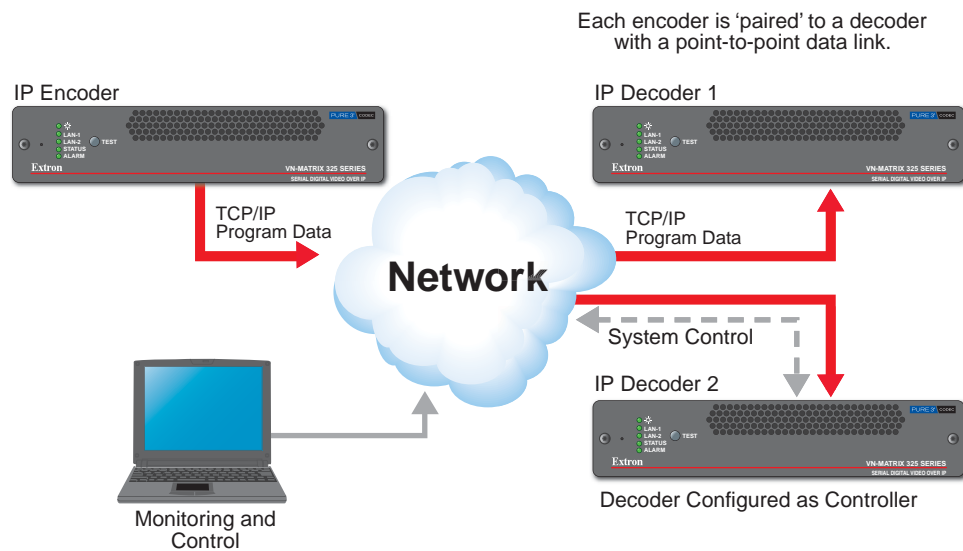

Figure 5. Typical Unicast TCP Application
The unicast TCP data transport method uses standard TCP protocol and should be used for single point-to-point transfer of data **only**. This method is connected as shown in **figure 5**.
- While figure 5 shows two decoders, in the scenario shown only IP decoder 1 is set to actively decode data that is streamed to it. IP decoder 2 may be in standby (set as **Device Type: None**, see “**Configure Encoders or Decoders**”) or may be receiving streamed data from another encoder.
- In figure 5, IP decoder 2 is designated as the system controller.